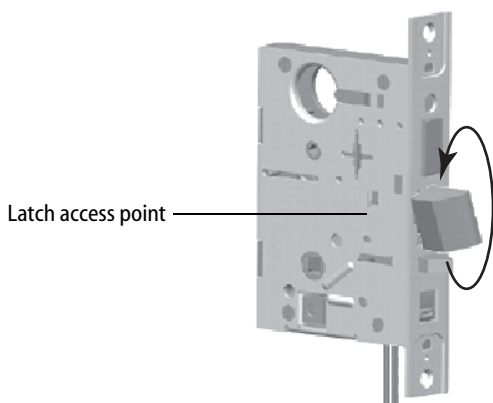

Figure 9 Rotating the latchbolt
- 2 If you need to rotate the latchbolt, insert a flat blade screwdriver into the latch access point approximately 1/2" into the case and press to extend the latch out of the case (Figure 9).